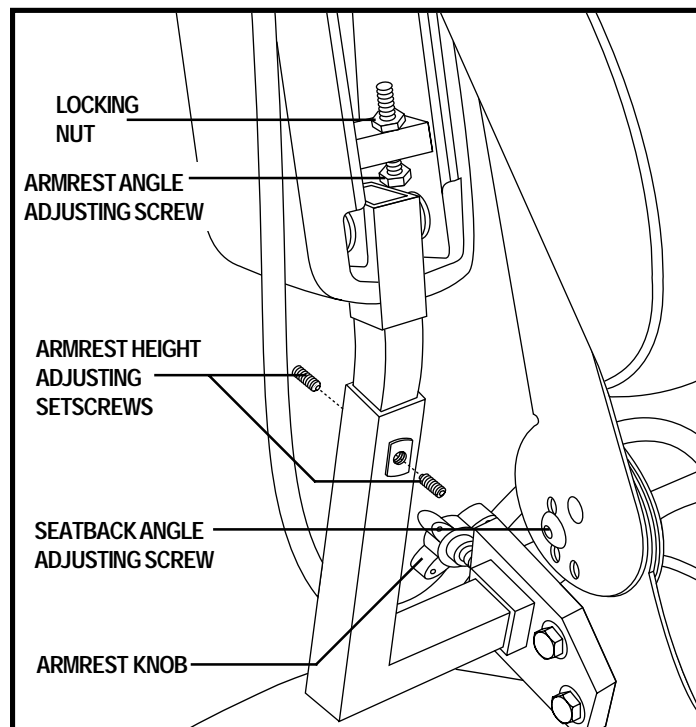

Figure 18. Seatback/Armrest Adjustment
1. Remove the adjusting screws from each seat hinge. See figure 18.
1. Locate the two armrest knobs on each side of the armrest receiver bracket. See figure 18.
1. Lift the armrest straight up so that it is perpendicular to the floor. See figure 18.
1. Loosen the two setscrews located on the armrest receiver. See figure 18.